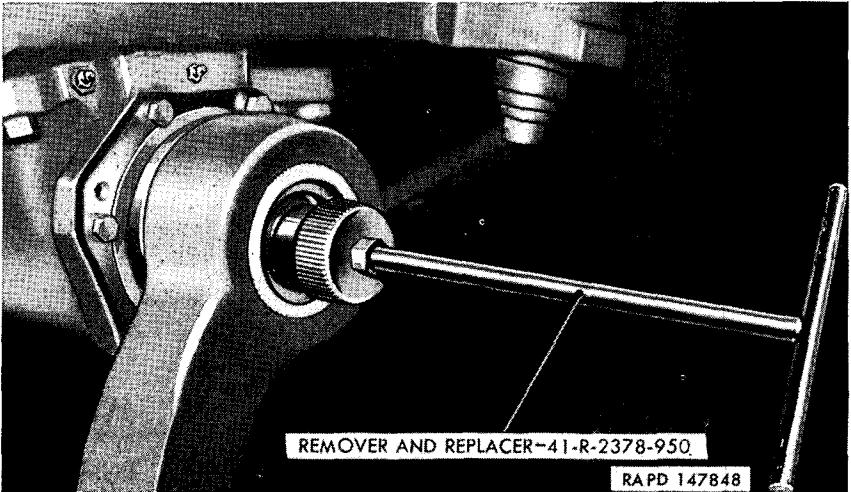

Figure 272. Removing torsion bar.
To remove the road wheel torsion bars, screw the remover and replacer 41-R-2378-950 into the tapped hole at end of torsion bar and then pull the torsion bar out from arm (fig. 272). To remove the compensating-idler-wheel-torsion bars, install adapter 41-A-18-400 to torsion bar; then attach the remover and replacer 41-R-2378-950 to the adapter, and pull out torsion bar.
d. INSTALLATION OF TORSION BARS. Coat both torsion bar serrations with grease as specified in lubrication order (fig. 87). Install torsion bar anchor, cover, and gasket but do not tighten cover bolts fully until torsion bar is installed. Install the torsion bar with the remover and replacer 41-R-2378-950 (fig. 272).